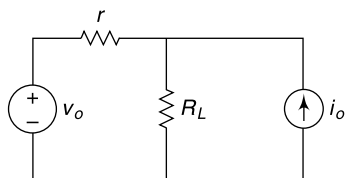

Fig. 4.200
39. In the circuit of Fig. 4.200, if $r = 5$ Ω, $R_L = 10$ Ω, $v_o = 10$ V, $i_o = 2$ A, find the current through R_L using Thevenin's theorem.